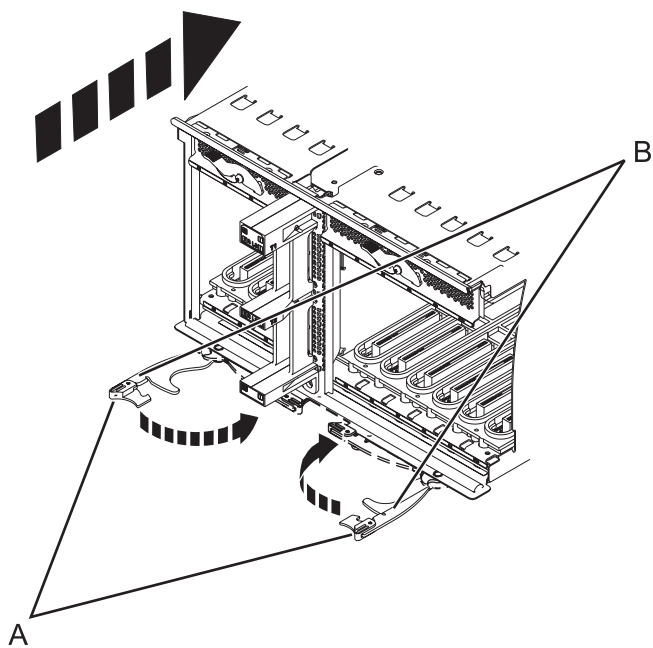

Figure 78. Install the I/O system board on a rack-mounted model
9. Insert the I/O system board firmly into the server, as shown in Figure 78 on page 106.
10. Secure the I/O system board with the locking tabs (A), as shown in Figure 78 on page 106.